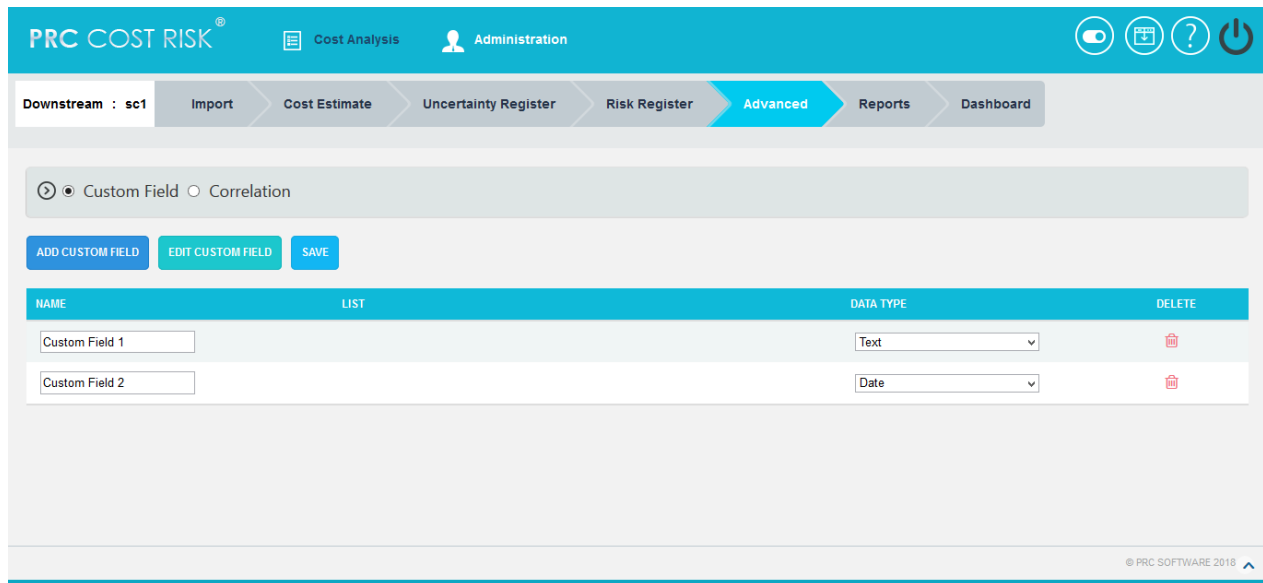

Figure 2.47
2. Click the **ADD CUSTOM FIELD** button. (Figure 2.47)
2. Click the **EDIT CUSTOM FIELD** button. (Figure 2.47)
2. Click the **EDIT CUSTOM FIELDS** button. (Figure 2.47)